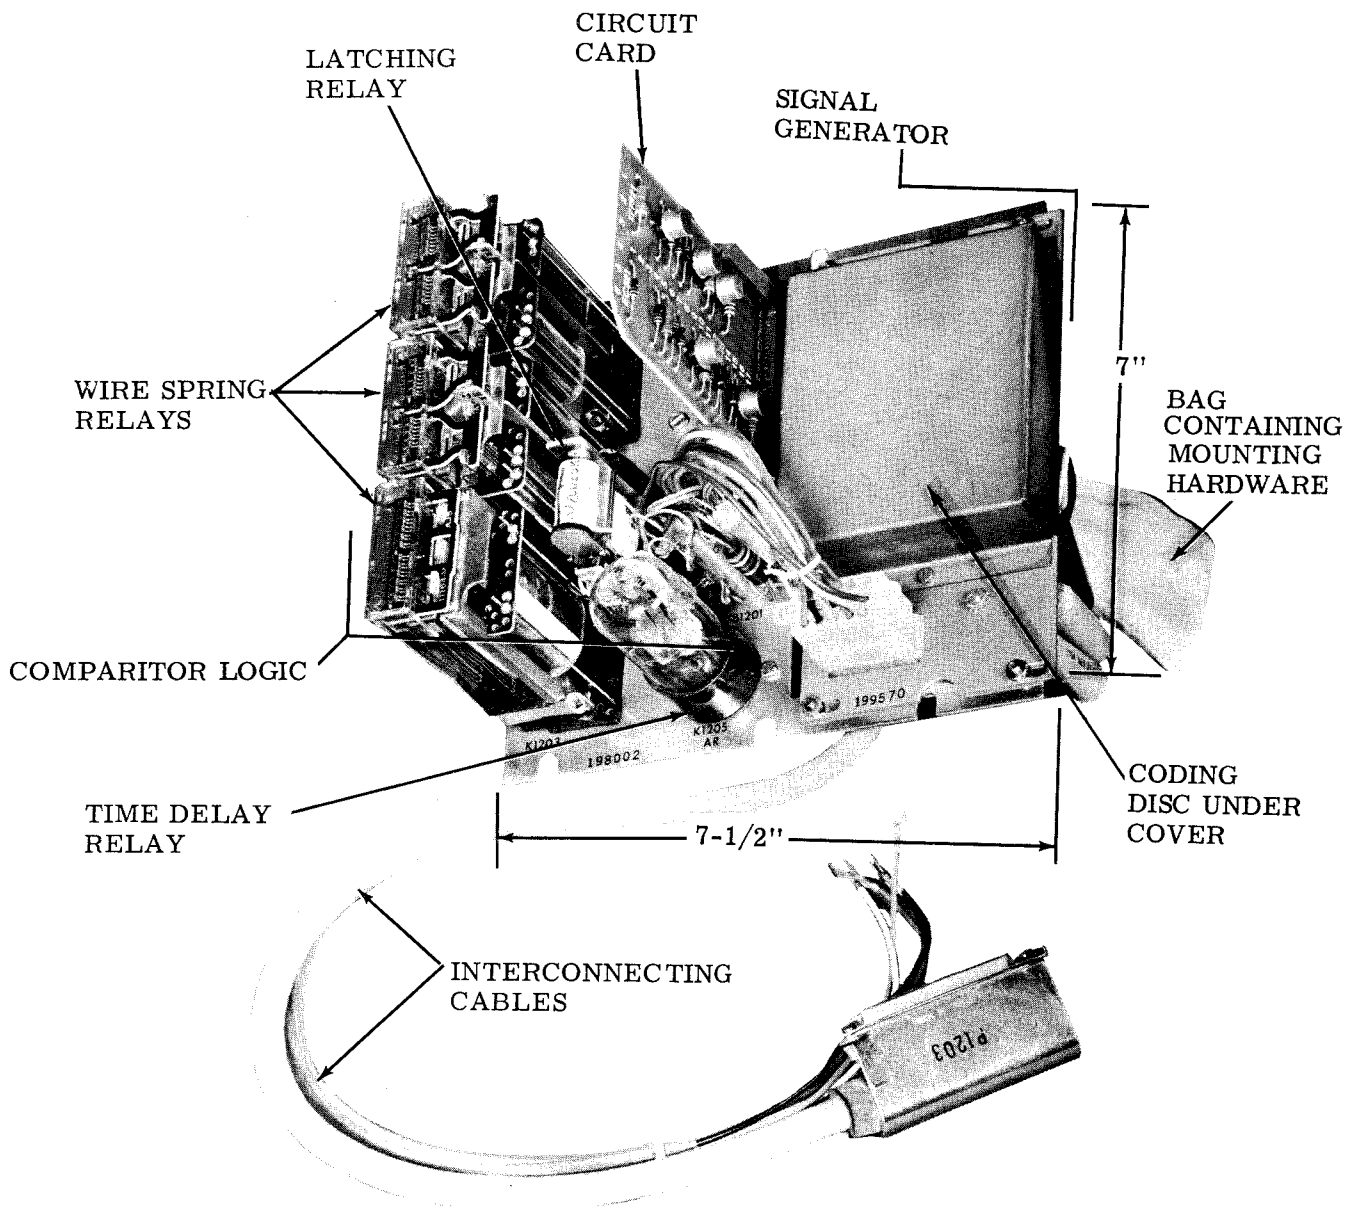

Figure 1 - TP198002 Recognizer Apparatus Unit Option
2.01 The recognizer apparatus unit is essentially a decoding device (Figure 1). When installed in a Tape Sender it causes the Sender to respond automatically to a properly coded request for data from a Tape Receiver, computer, or other business machine. Data can thus be transmitted automatically from an unattended Tape Sender to those callers which have facilities for generating the appropriately coded data request.
2.03 The option consists of a comparitor logic assembly and a signal generator (Figure 1). The logic includes three wire spring relays, a latching relay, a time delay relay, and a solid-state circuit card. The signal generator consists
A. Dimensions (Figure 1)